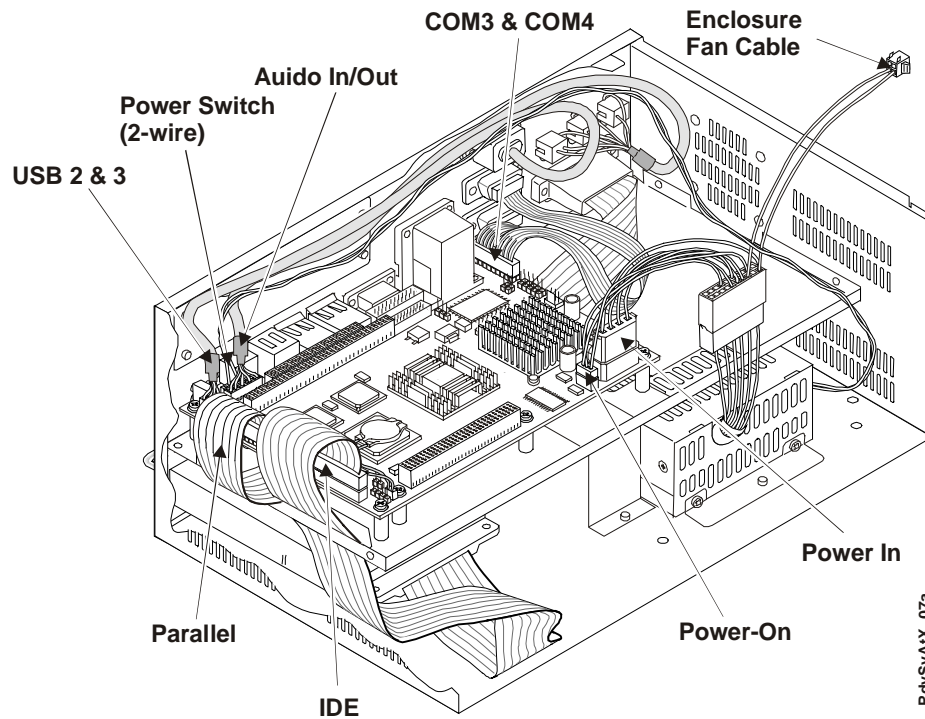

Figure 2-4. Disconnecting the Cables
6. You may disconnect the cables to the ReadyBoard in any order, but do so carefully. See Figures 2-4, 2-9, and 2-10 for connector assignments.
1. Connect the Parallel cable to the Parallel/Floppy connector (J20). See Figures 2-4, 2-9, and 2-10.
2. Connect the IDE cable to the IDE connector (J22). See Figures 2-4, 2-9, and 2-10.
3. Connect the USB 2 & 3 cable to the USB 2 & 3 connector (J21). See Figures 2-4, 2-9, and 2-10.
4. Connect Power Switch cable (two-wires) to Utility connector (J18). See Figures 2-4, 2-9, and 2-10.
5. Connect the Audio In/Out cable to the Audio In/Out connector (J19). See Figures 2-4, 2-9, and 2-10.
6. Connect the Serial 3 & 4 cable to the Serial 3 & 4 connector (J3). See Figures 2-4, 2-9, and 2-10.
7. Connect the ATX Power In cable to the Power In connector (J4). See Figures 2-4, 2-9, and 2-10.
8. Connect the power on cable to the Power-On connector (J6). See Figures 2-4, 2-9, and 2-10.